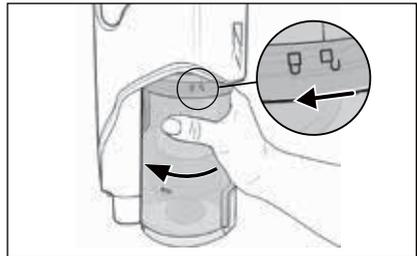

Fig. 17
- 2) To remove the dust container **7** from the appliance, turn it towards the symbol  (open) until it can be detached from the appliance (see Fig. 17).